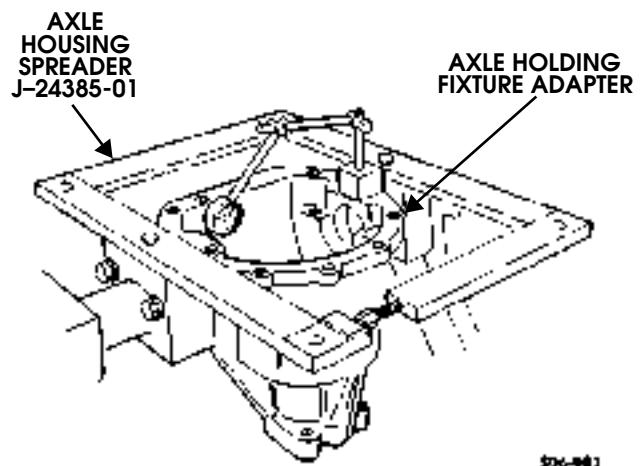

Figure 9-98: Axle Housing Spreader Mounting
57. Install axle housing spreader into holes in axle holding fixture adapters and install dial indicator to read from each end of housing. Indicator must have preload setting of 0.020 in. (0.50 mm) (Figure 9-98).